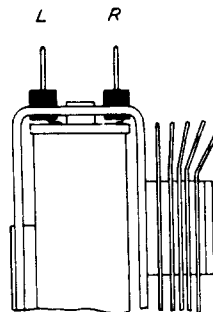

Fig. 91 – Winding Terminal Arrangement Relays as Viewed From the Top — Dashpot Relays
2.97 The springs are numbered as covered in 2.51. The winding terminals are designated as shown in Fig. 91 viewing the relay from the top with the springs on the right.